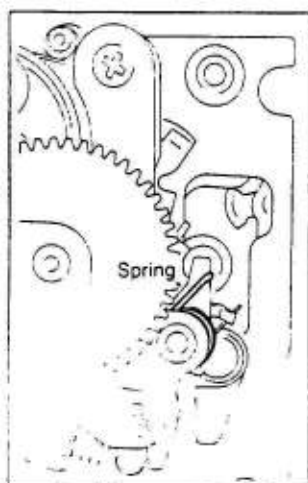

Fig.4 Back side view
4. Take off once the spring of reversal lever claw ⑥, and move the reversal lever claw to make a gap, in which insert the S. lever ass'y ③ as shown in Fig. 4. (See Fig. 4.)